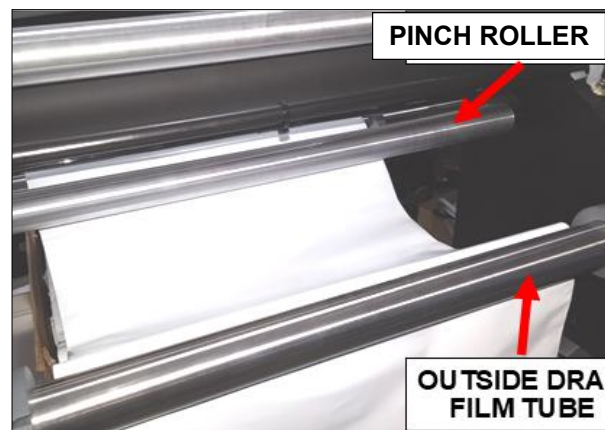

Figure 33E. Web Under Outside Drag Tube
2. Then, under the Pinch Roller and Outside Drag Film Tube. **Figure 33E.**